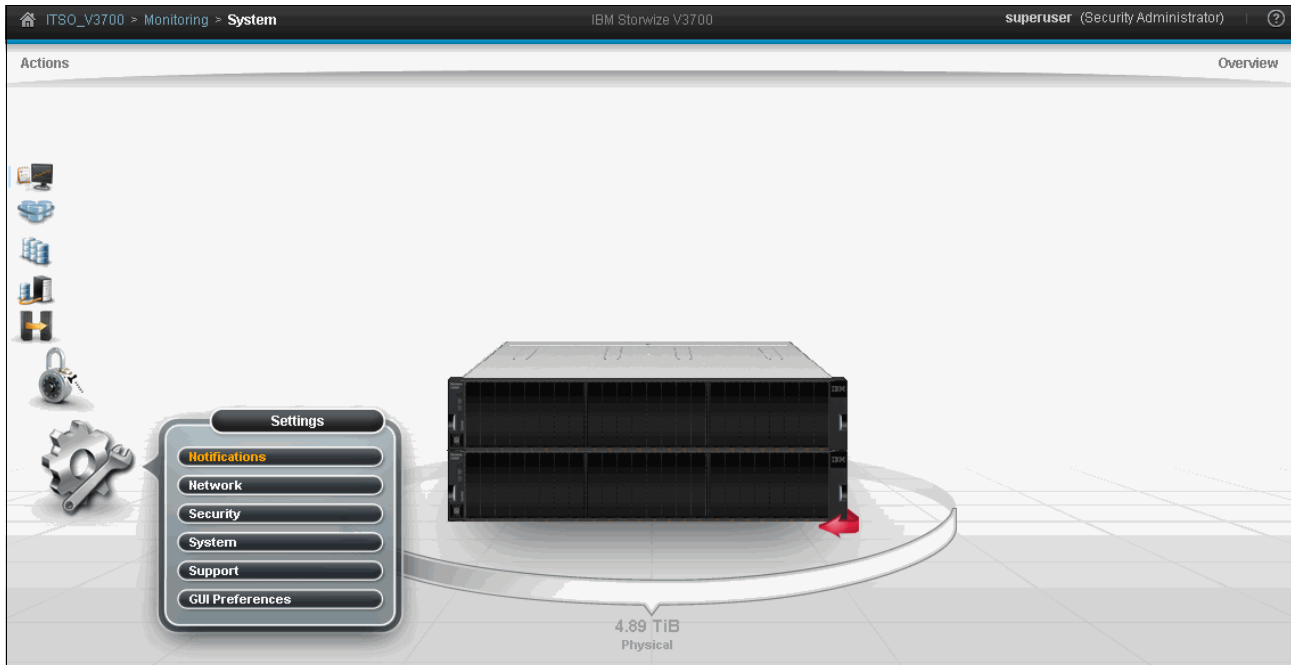

Figure 2-44 Enabling Call Home
1. Go to **Settings** → **Event Notifications**, as shown in Figure 2-44.